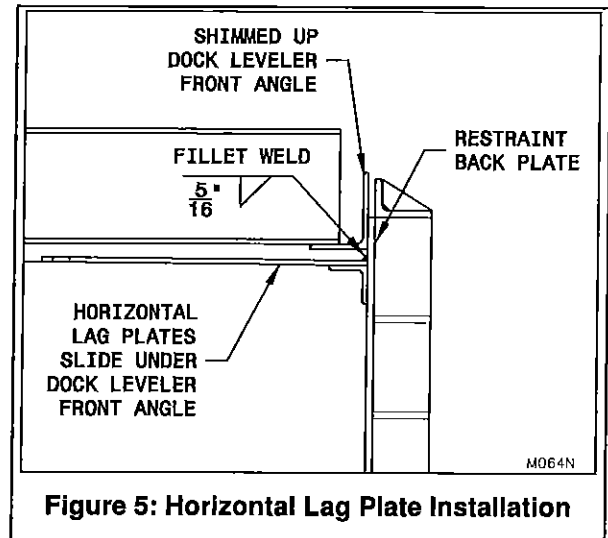

Figure 5: Horizontal Lag Plate Installation
- a) If there is a gap (as a result of shimming the dock) between the front angle of the dock leveler and the dock leveler pit floor of 1/4" or more, place the horizontal lag plates onto the dock leveler pit floor, directly behind and perpendicular to the back plate of the restraint, and slide the horizontal lag plates under the front angle of the dock leveler until they butt up against the back plate of the restraint. See Figure 5, page 9. (If no gap is present, proceed to item 2.h) and follow the Pour-In Dock Leveler instruction.)
- d) Pull the restraint away from the wall and place a minimum 5/16" fillet weld the full width of the horizontal lag plate to the back plate of the restraint. See Figure 5, page 9.
- g) Proceed to item 3 on page 10.